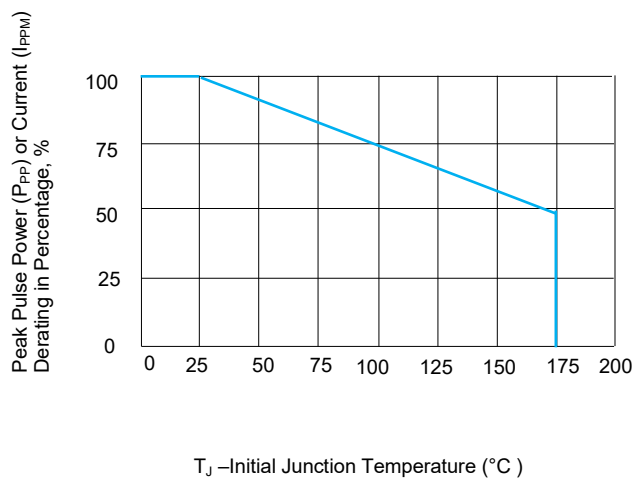
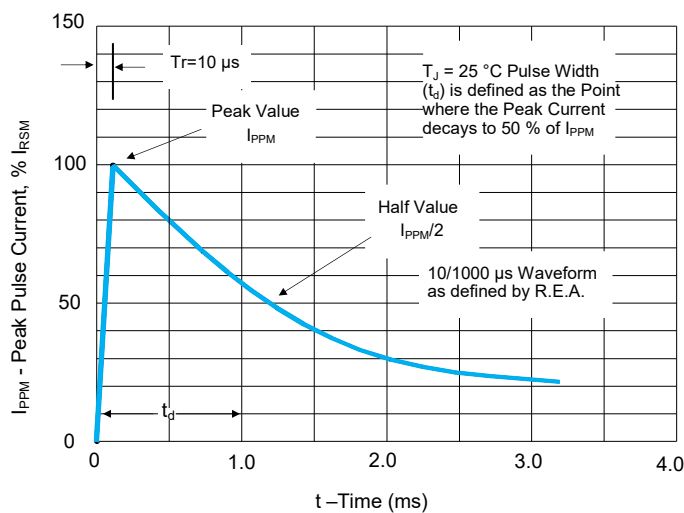

FIGURE 3 Peak Pulse Power Derating Curve
FIGURE 4 Pulse Waveform
1. Non-repetitive current pulse, per Fig. 4 and derated above T_J (initial)= $25\text{ }^{\circ}\text{C}$ per Fig. 3.